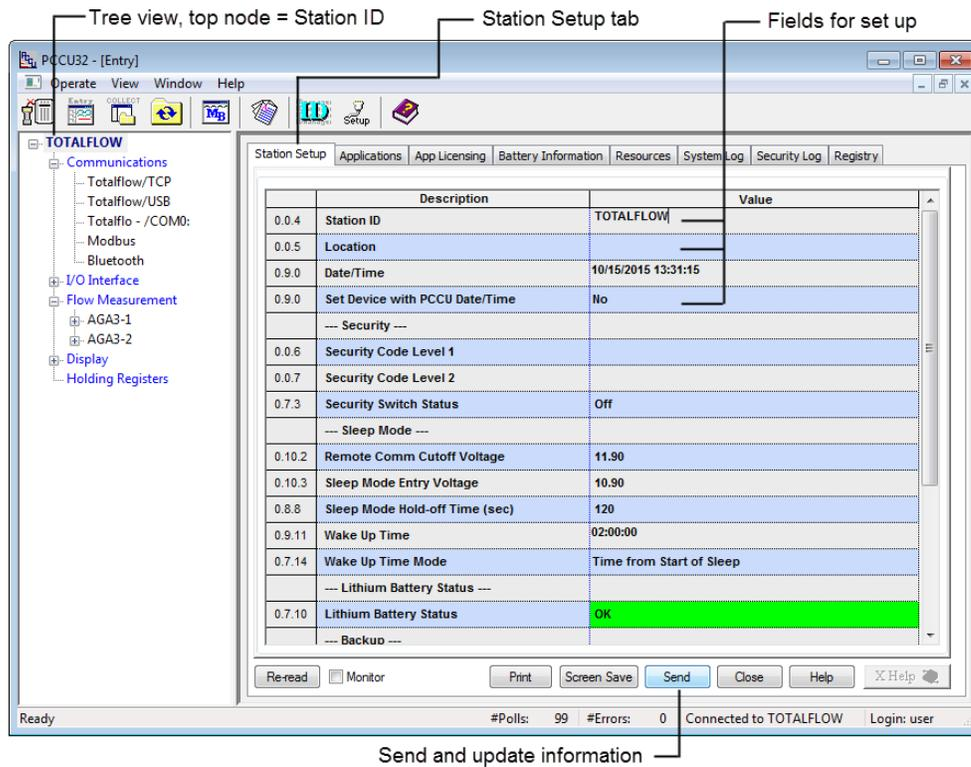

Figure 32: Station Setup tab
1. Click the top node of the navigation tree, the **Station ID** name, to see the **Station Setup** screen and tab (Figure 32).